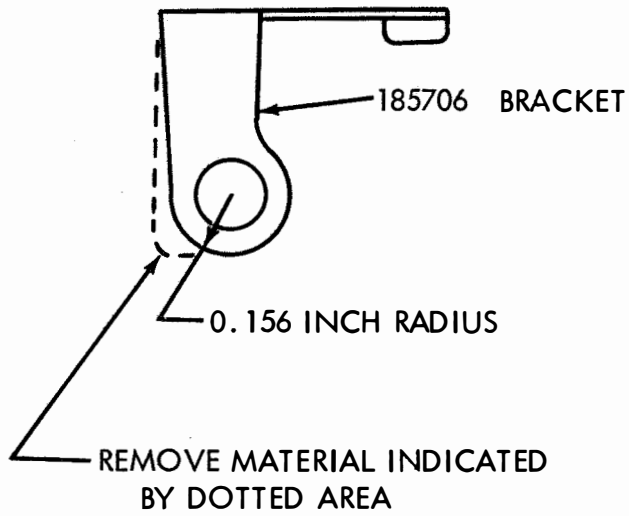

Figure 3 - Modified 185706 Bracket
3.06 Early design units equipped with modification kit 185705 for fan-fold tape require that bracket 185706 furnished with that modification kit be modified to prevent interference with support plate 185848 (Figure 3).